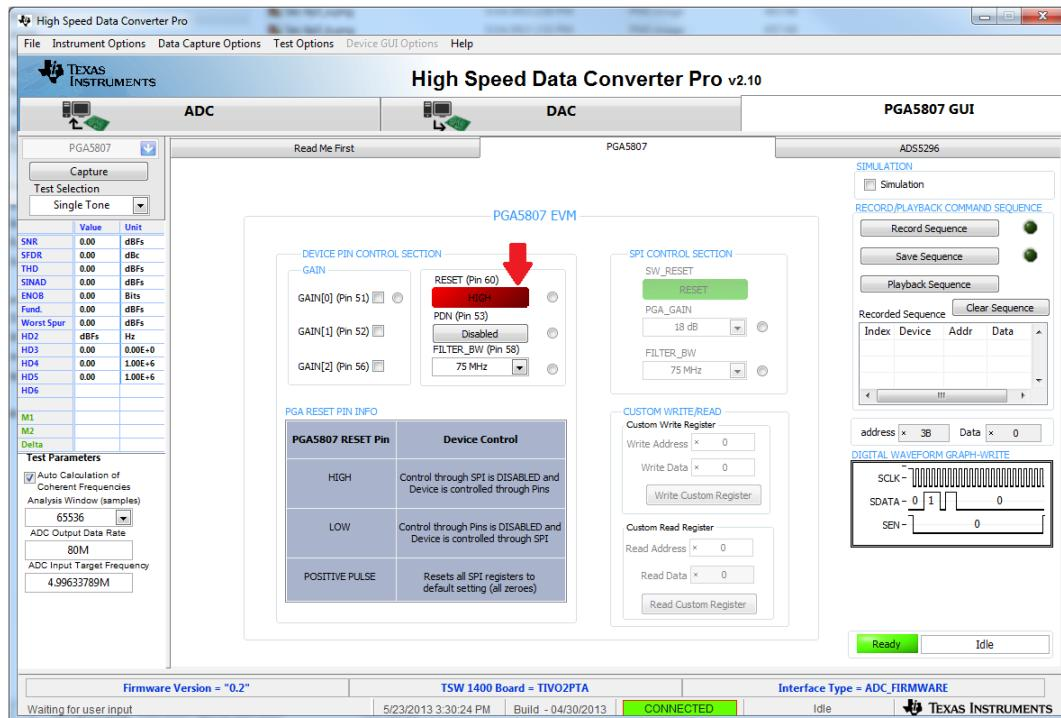

Figure 48. PGA5807 GUI Setup for PGA5807A + ADS5296A Gain Test 3
6. The same gain test can be performed using the device pins to set the gain instead of the SPI. At the PGA5807 tab, change the state of the **RESET (Pin 60)** control to **HIGH**. This will disable the **SPI CONTROL SECTION** and enable the **DEVICE PIN CONTROL SECTION** as shown in Figure 48.